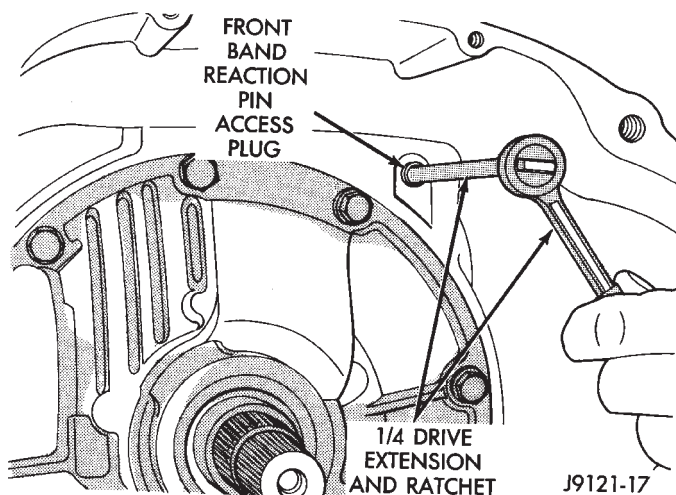

Fig. 17 Removing/Installing Front Band Lever Pin Access Plug (46RH)
(18) Remove front band lever pin access plug (Fig. 17). Use square end of 1/4 in. drive extension to remove plug as shown.